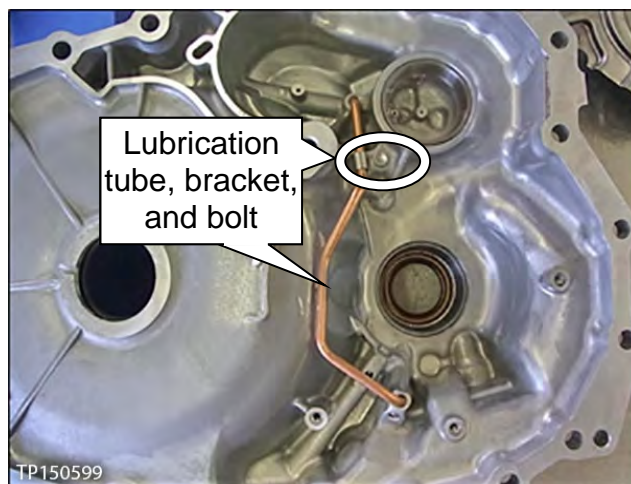

Figure 2H
- b. Remove the bolt and then remove the lubrication tube and its bracket (Figure 2H).